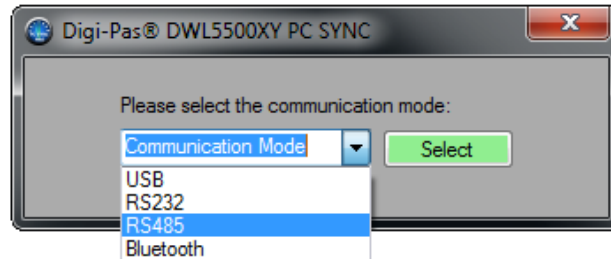

Figure 18. Select RS485 Mode from the drop down menu
1. Assuming steps stated in 3.1 Configuration of Single Tilt Sensor Module with Converter and 4.1 Installation of the DWL5000XY or DWL5000XY PC Sync Software have been done in this stage. Open PC SYNC software and select RS485 from the drop down menu as shown in Figure 18.